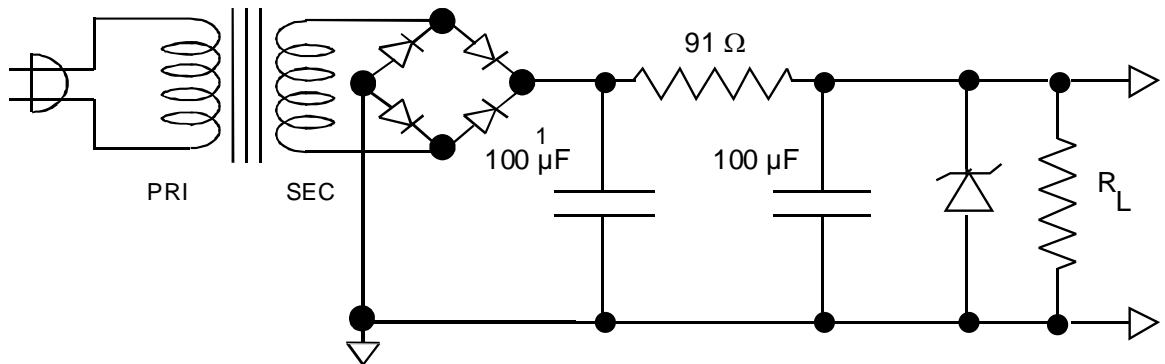

Figure 3-6 Pi filter with Zener diode voltage regulator
* Add a Zener diode across the output of the PI filtered power supply you built in part 3b, as shown in Figure 3-6.